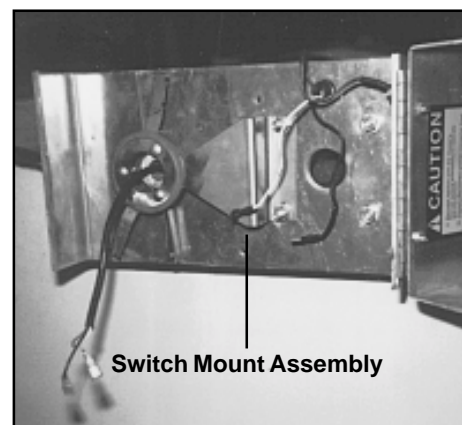

Figure 2
2. Insert two 5/16" x 1-1/2" bolts through the drive head switch mount holes. Place the switch mount assembly over the bolt ends as shown in figure 2. Secure the switch mount assembly with two 5/16" nuts.